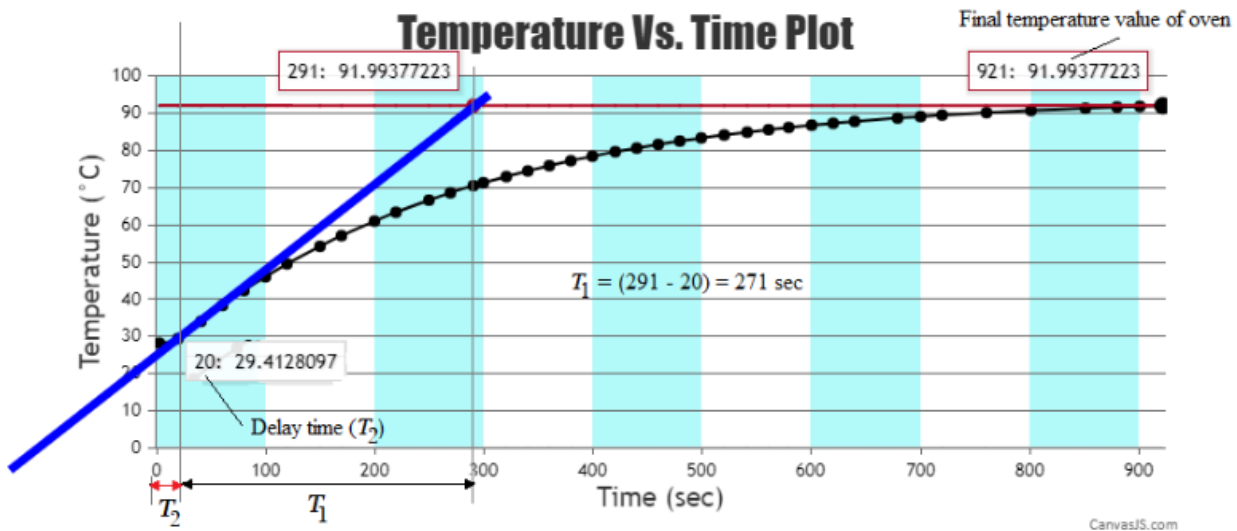

Fig.5 Calculation of time constant (T_1) and delay time (T_2)
11. To get the time constant (T_1) and delay time (T_2) observe the intersection points of slope line with the horizontal red line (drawn from final temperature value) and x-axis as shown in Fig.5.